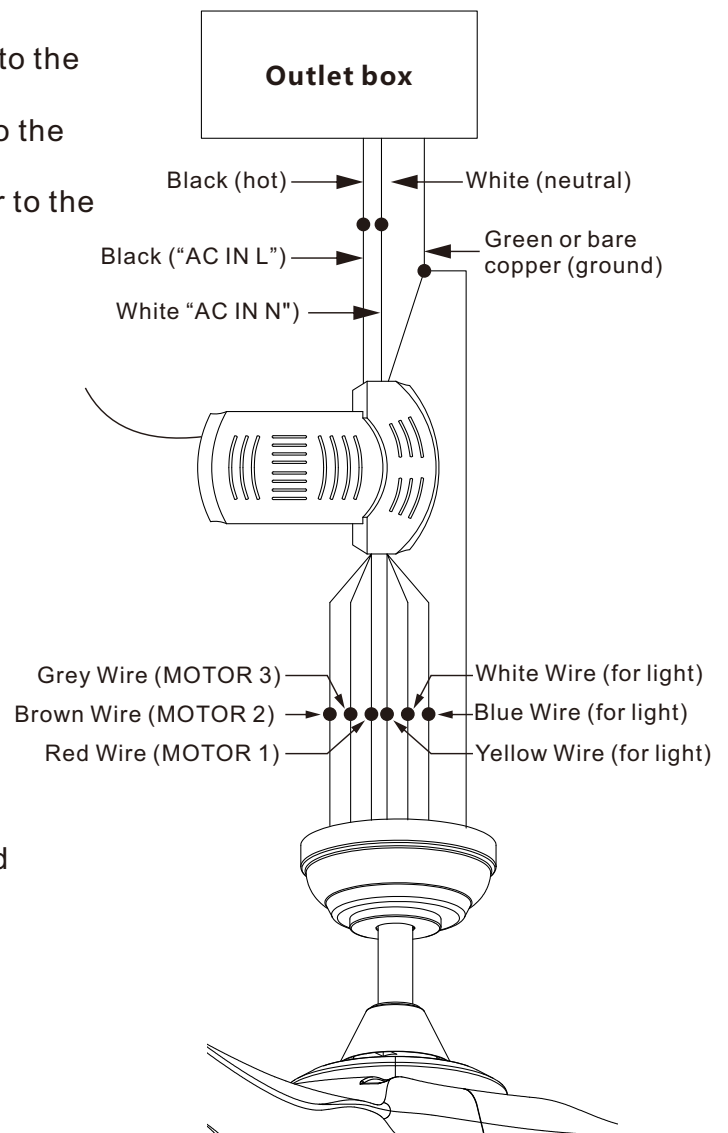

Figure 17
**Motor to Receiver Electrical Connections:**(Fig.17)
**Step 2.** (Fig.17) **Receiver to House Supply Wires Electrical Connections:** Connect the Black (hot) wire from the ceiling to the black wire marked "AC in L" from the receiver.
**Step 3.** (Fig.17) If your outlet box has a ground wire (green or bare copper) connect it to the fan ground wires and the receiver ground wire; otherwise connect the hanging bracket ground wire to the fan and the receiver ground wire. Secure the wire connection with a plastic nut provided. After connecting the wires, spread them apart so that the green and white wires are on one side of the outlet box and other wires are on the other side. Carefully tuck the wire connections up into the outlet box.